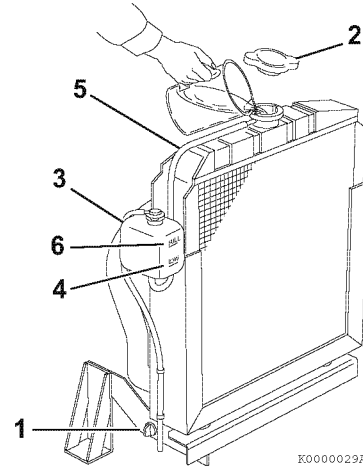
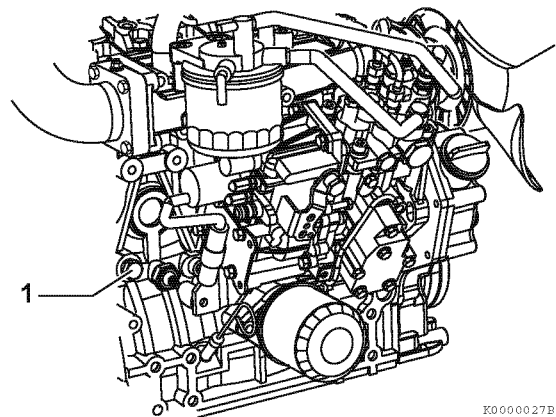
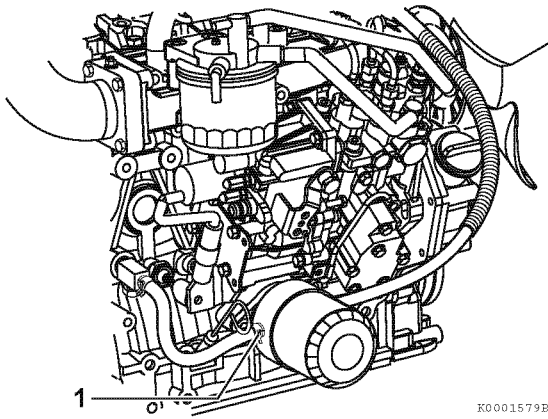

Figure 4-7
Figure 4-8
Figure 4-9
Fill the radiator and reserve tank as follows. This procedure is for filling the radiator for the first time or refilling it after it is flushed. Note that a typical radiator is illustrated (**Figure 4-7**).
1. Check to be sure the radiator drain plug is installed and tightened or the drain cock (1, **Figure 4-7**) is closed. Also make sure the coolant drain plug (1, **Figure 4-8**) in the cylinder block is closed or the oil coolant hoses (1, **Figure 4-9**) are installed at the oil cooler.
2. Remove the radiator cap (2, **Figure 4-7**) by turning it counter-clockwise about 1/3 of a turn.
4. Reinstall the radiator cap (2, **Figure 4-7**). Align the tabs on the back side of the radiator cap with the notches on the engine coolant filler port. Press down and turn the cap clockwise about 1/3 of a turn.
5. Remove the cap on the reserve tank (3, **Figure 4-7**), and fill it to the LOW (COLD) mark (4, **Figure 4-7**) with engine coolant. Reinstall the cap.
6. Check the hose (5, **Figure 4-7**) that connects the reserve tank (3, **Figure 4-7**) to the radiator. Be sure it is securely connected and there are no cracks or damage. If the hose is damaged, the engine coolant will leak out instead of going into the reserve tank.
7. Run the engine until it is at operating temperature. Check the level of engine coolant in the reserve tank. When the engine is running and the engine coolant is at normal temperature, the coolant level in the tank should be at the FULL (HOT) mark (6, **Figure 4-7**). If the engine coolant is not at the FULL (HOT) mark (6, **Figure 4-7**), add additional engine coolant to the reserve tank to bring the level to the FULL (HOT) mark.